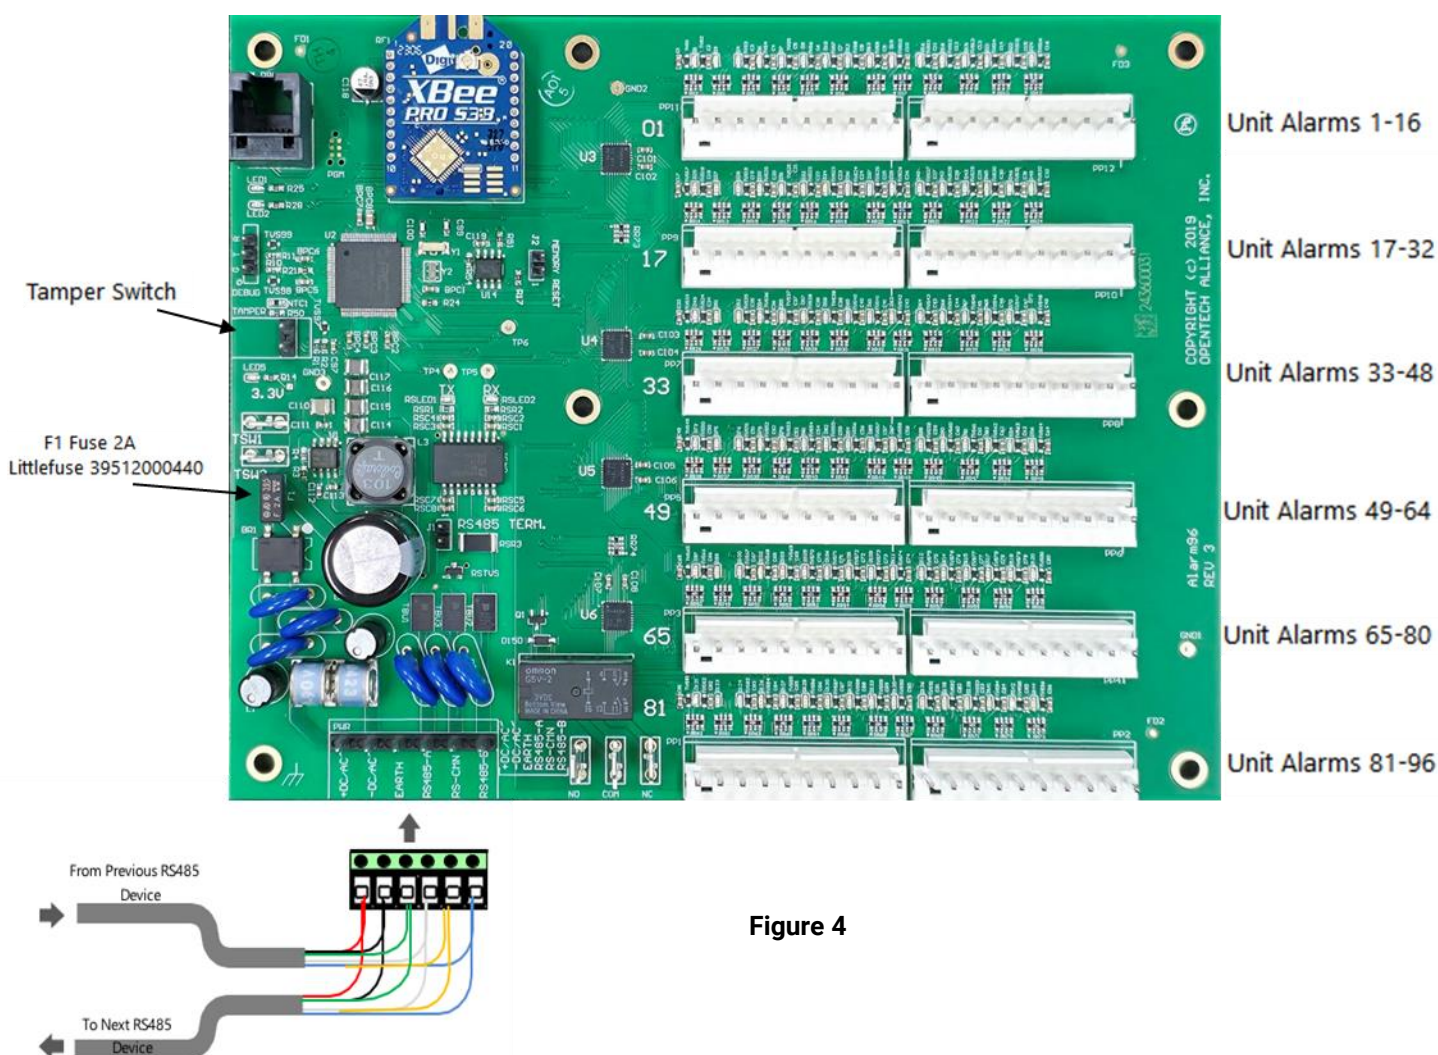

Figure 4
**Figure 4** is a connection diagram for the Unit Alarm Printed Circuit Board (PCB). RS485 communication cables entering the enclosure should be insulated and shielded, with drain wires connected.